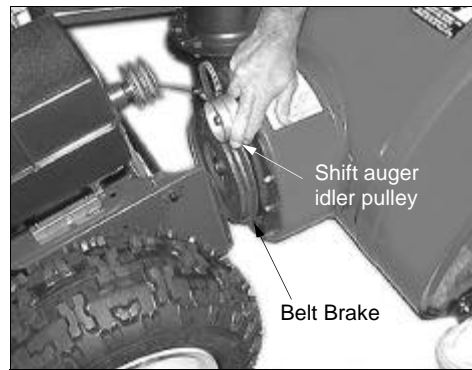

Figure 20
6. To remove the front auger drive belt, push the idler pulley to the left. The belt brake should move outward. See Figure 20. Lift the front